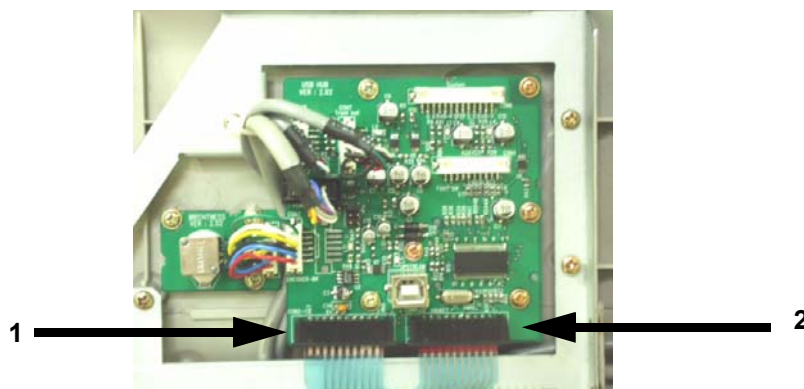

Figure 8-62 Disconnecting 2 connectors
- 2.) Disconnect two(2) connectors (1-2) from the HUB Board. Refer to section Figure 8-62 on page 22.